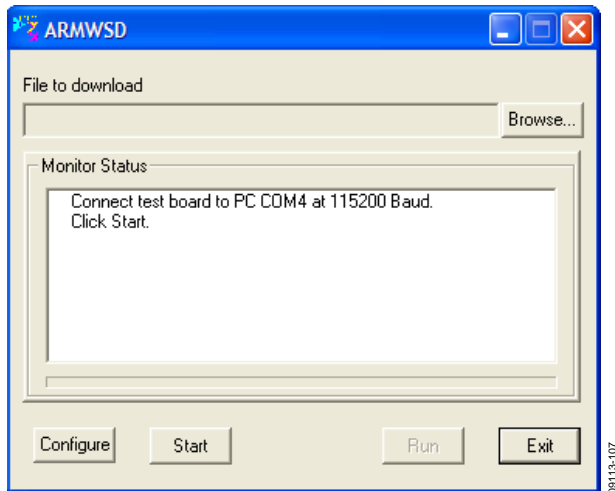
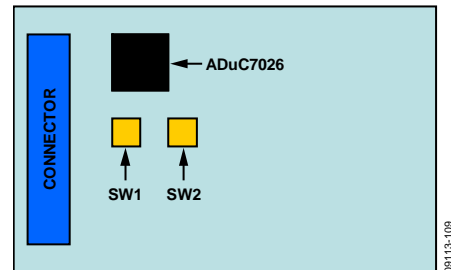

Figure 8. ISEB ARMWSD Firmware Downloader
Figure 10. ISEB Switch Locations for Flashing the Microcontroller
2. Run the **ARMWSD.exe** program located in the **/ISEB\_USB/FW/** folder; it displays information about the downloader, as shown in Figure 8.
When the COM port is selected, click **OK** to accept the changes and go back to the ARMWSD box (shown in Figure 8).
1. Click **Start** in the ARMWSD box (see Figure 8) to initiate the flashing process. After clicking **Start**, click the two buttons (shown in Figure 10) on the ISEB in the following order to flash the firmware:
2. If the downloading process fails, which is indicated in the **Monitor Status** box (see Figure 8), attempt the download again by clicking **Start** and then pressing the appropriate switch combination. It may take a few attempts to reprogram the board successfully.
3. After the download has completed successfully, click **Run** (as shown in Figure 8) to reset the ISEB and to begin running the new firmware.